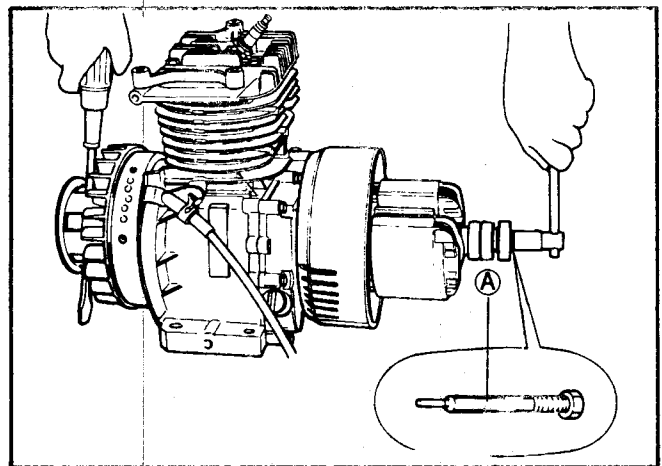

Figure 146
12. Use a rotor remover bolt (see the Special Tool Section, page 19, for the correct part number) to remove the rotor assembly. The rotor is secured to the crankshaft of the engine with a tapered fit. The crankshaft has an external taper and the rotor has an internal taper. See Figure 146.